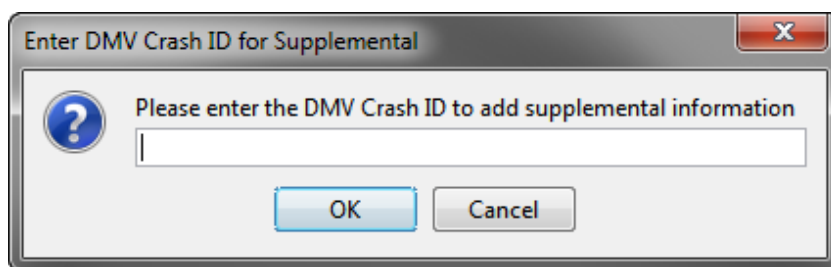

Figure 71. Enter DMV Crash ID for Supplemental
2. Select **Create Supplemental** on the Forms Manager **Tools** tab. The **Enter DMV Crash ID for Supplemental** dialog box opens, as shown in Figure 71.